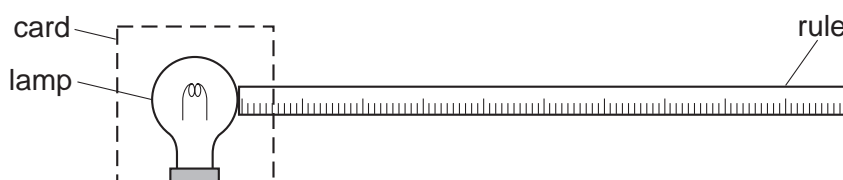

Fig. 1.1
2. The rule is to be clamped with its zero touching the outer edge of the glass surface of the lamp, as shown in Fig. 1.1.